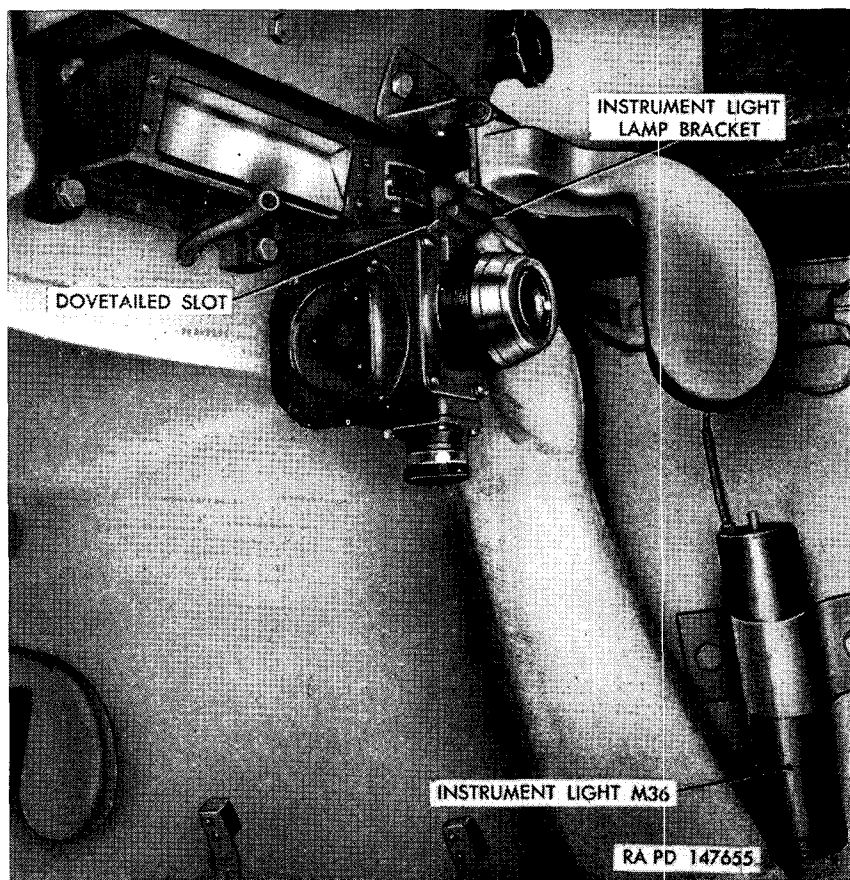

Figure 65. Installing lamp bracket on periscope T35.
- (9) If night operation is required, install the lamp bracket of instrument lights M36 in the dovetailed slot above the six-power eyepiece on the periscopes (fig. 65).
- (10) Look through the six-power eyepiece of the periscopes. Turn the diopter scale on the eyepiece until the image is seen with maximum sharpness.
- (11) If preparing for night operation, illuminate the reticle by rotating the rheostat knob of the instrument lights M36 until the desired illumination is obtained.